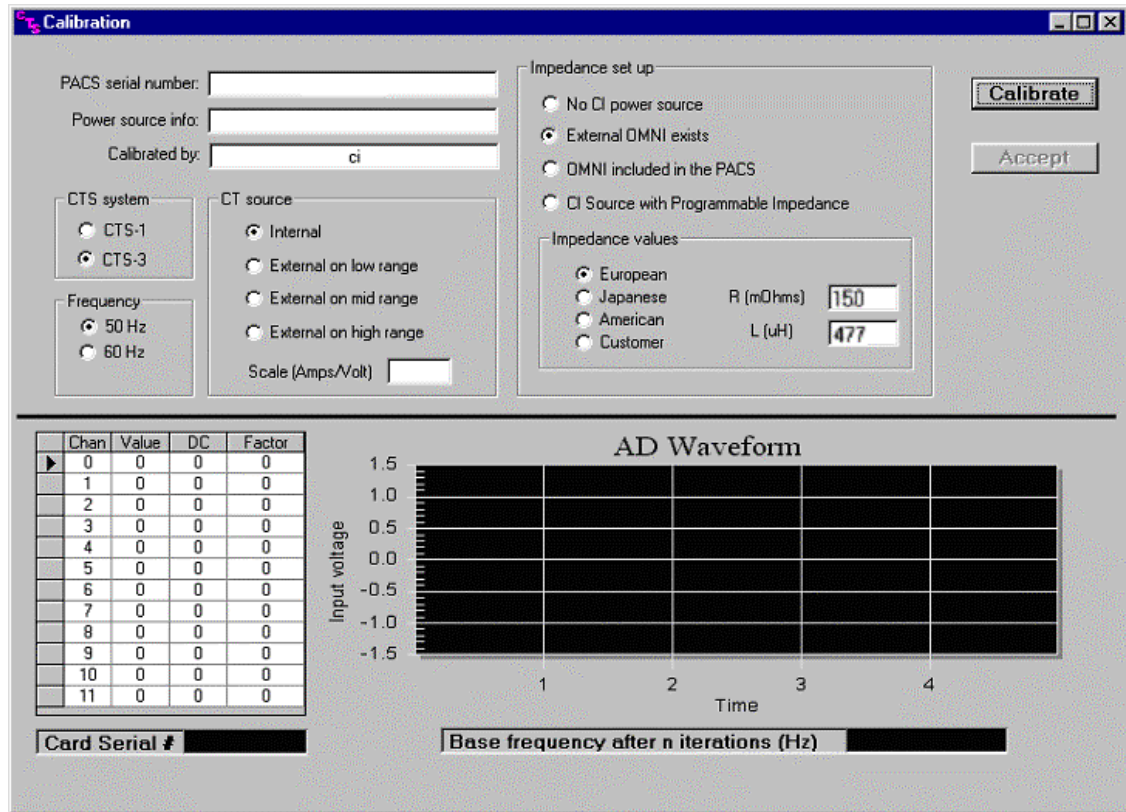

Figure 17-1 : CTSMXL Calibration Program Main Screen
1. Start the Calibration module located in the **Compliance Test System** Program group called **Calibration** (See Figure 17-1).